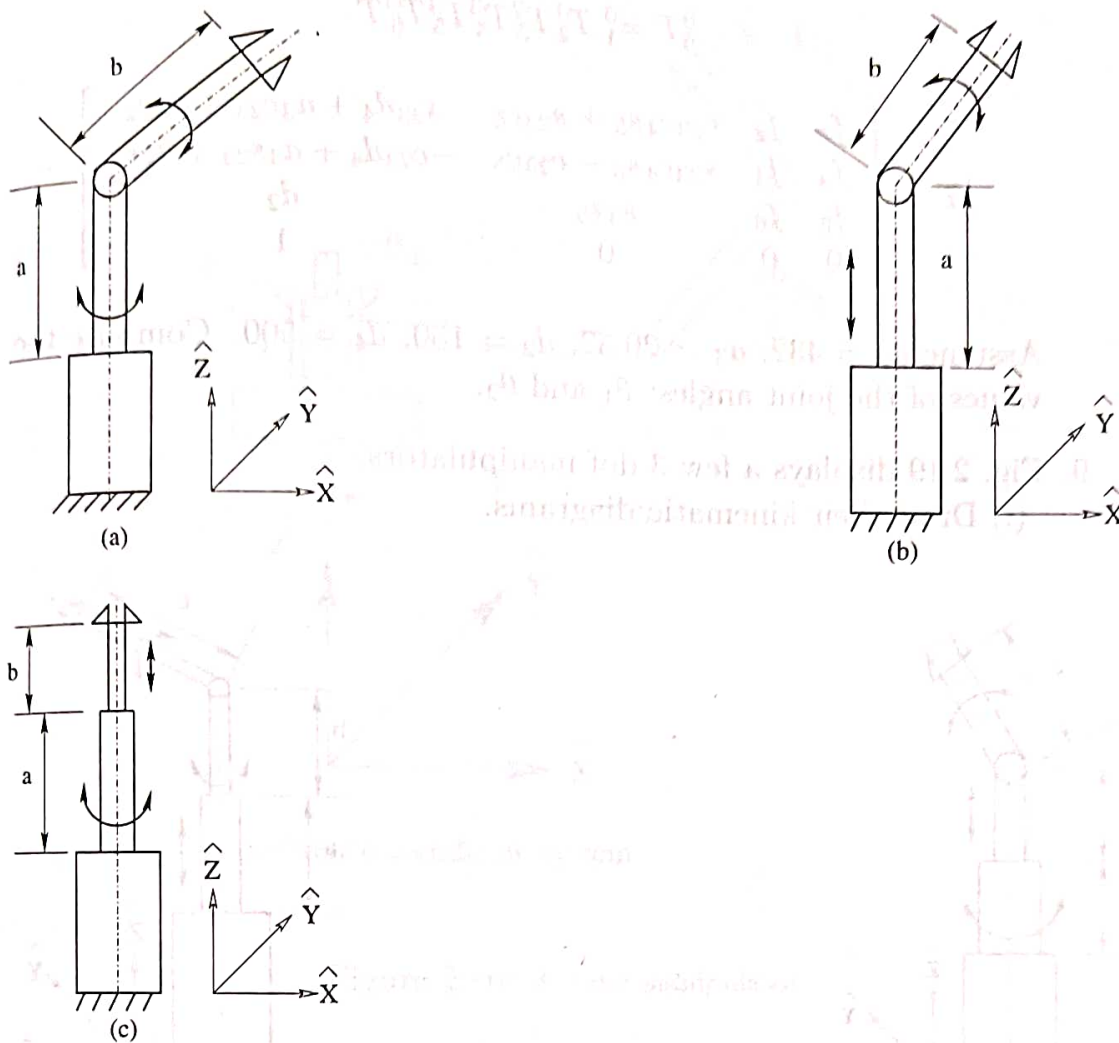

Figure 2.18: Schematic views of a few 2 dof manipulators: (a) TR, (b) SR, (c) TS.
7. Fig. 2.18 displays a few 2 dof manipulators.